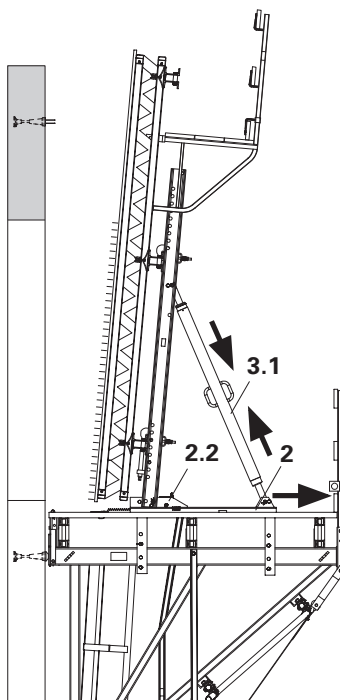

Fig. B1.15
4. Retract carriage (2).
- (Fig. B1.15)